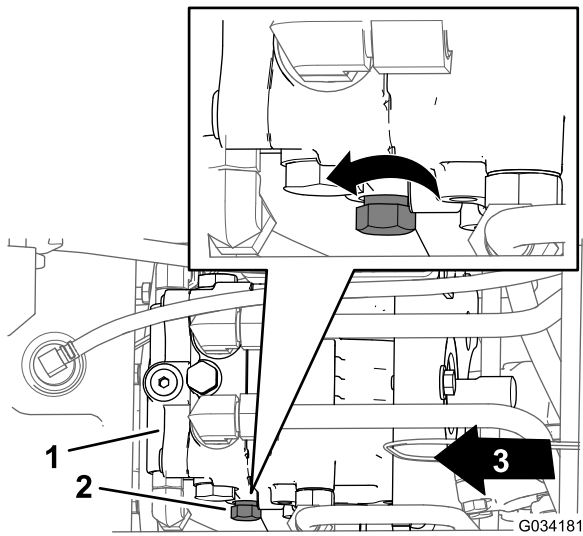

Figure 35
2. Locate the control knob for the bypass valve at the left side of the hydraulic pump (Figure 35).
3. Rotate the control knob 3 turns counterclockwise (Figure 35).
1. Locate the control knob for the bypass valve at the left side of the hydraulic pump (Figure 35).
2. Rotate the control knob (Figure 35) clockwise until you feel resistance (the bypass valve is closed).